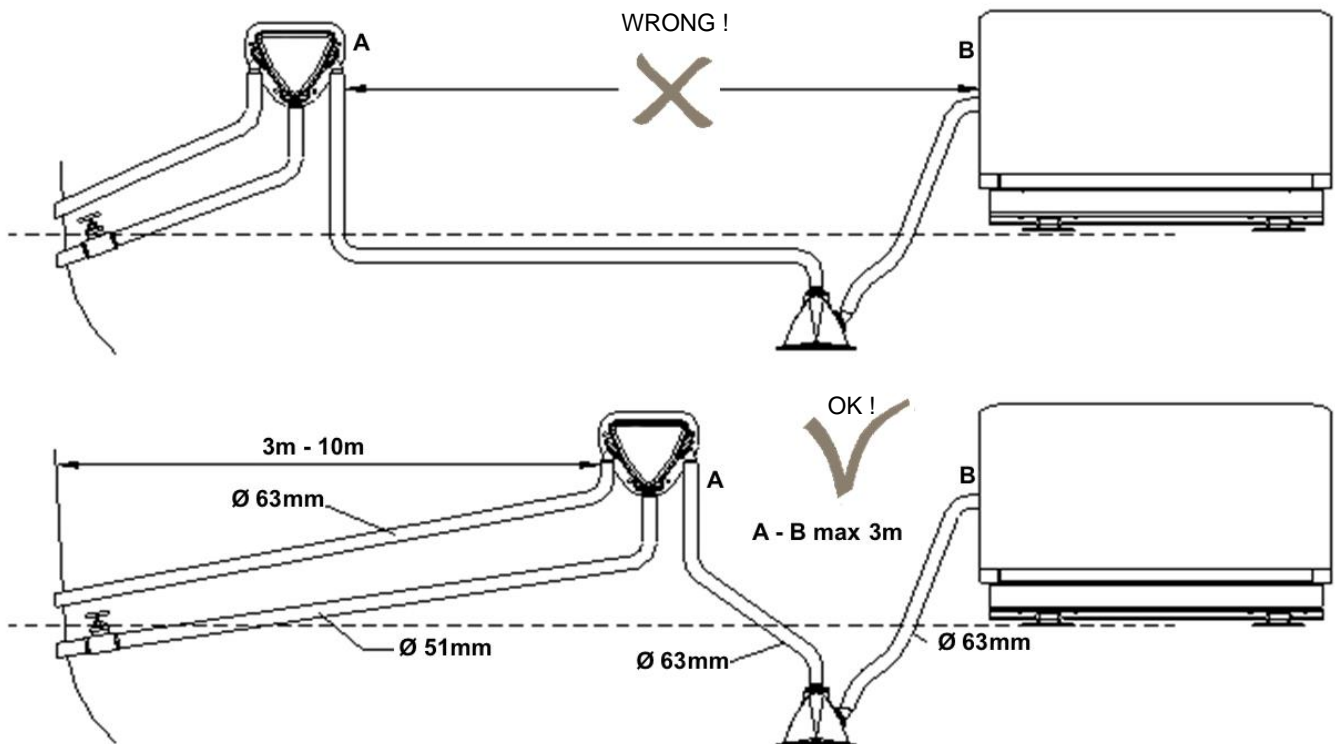

Fig. 10
fig. 10, ref. 1). The exhaust hose must have an inner diameter of 63 mm (2½"). The exhaust system must be installed so that the back pressure inside the exhaust does not exceed 0.07 bar (1psi – 70 cm water column) and total length from the generator to the top of the goose neck or water/separator does not exceed 3m (10 ft.). (Refer to paragraph 5.4.3 of the user's manual).
If the through-hull exhaust outlet has to be mounted far from the generating set an exhaust/water separator must definitely be installed (Total length of the exhaust piping from generator to top of goose neck (water separator) is more than 3 m.) (ref. to fig. 10).
The sea water from the separator must then run down along the shortest possible path to the through-hull outlet. Only after the exhaust/water separator the exhaust hose may have a length of over 7,5 m (ref. to fig. 10)